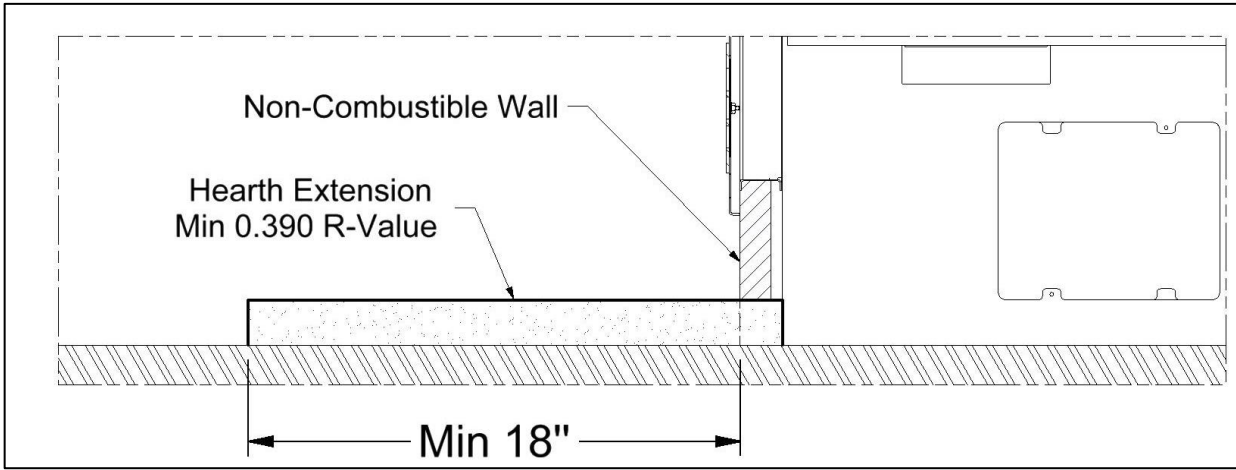

Figure 3-21: Hearth Extension Extended to Unit
- Refer to Figure 3-21 for clearances to combustibles.